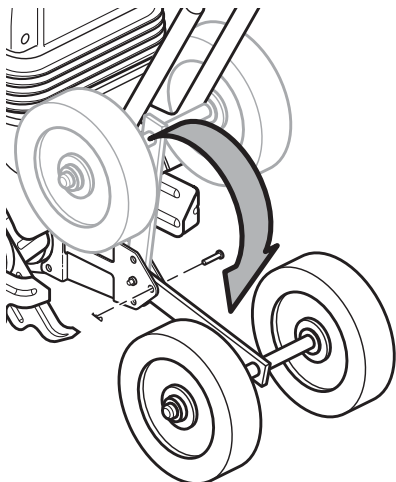

Figure 6 - Adjusting Wheel Assembly to Transport Position
2. Rotate the wheel assembly down so that the hole in the wheel assembly lines up with the center hole in the mounting bracket as shown in Figure 6.
3. Insert the clevis pin through the hole as shown in Figure 6, and insert the retaining clip in the clevis pin. The wheels are now mounted in the transport position.